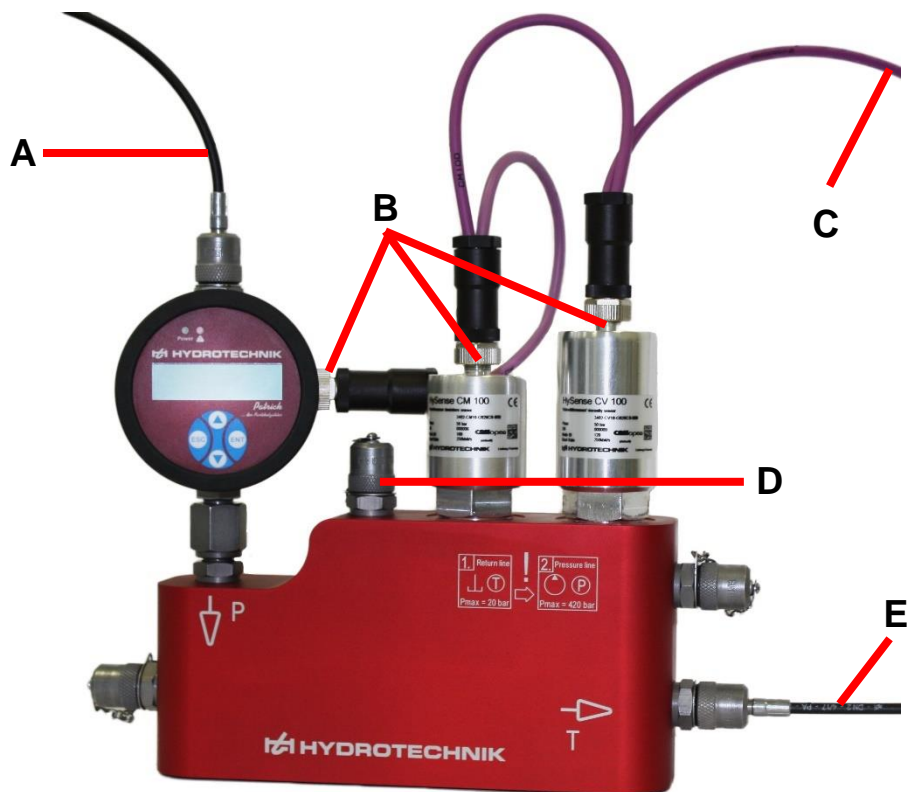
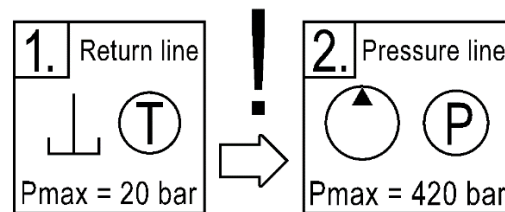

Figure 3: Connections to the CX 197
Figure 4: Printing on the CX197 (pictograms)
Figure 3 depicts the connected CX 197. The next section describes the start-up in more detail.
- First connect the tank line to the CX 197 with a simple hose line (point **E**, Figure 3)
- For the pressure connection, use the hose line with the check valve on one side. First connect the simple side (without check valve) to the CX 197 on the input side (point **A**, Figure 3)
The CX 197 does not have its own pump, which is why it is installed in the pressure line. The symbols P and T with an arrow are engraved on the front side of the CX 197. The arrows on the CX 197 indicate the flow direction of the medium. The P symbol stands for pressure and the T for the tank side (Figure 3 or Figure 4). The warning on the front of the CX 197 (Figure 4) symbolizes the correct connection sequence with the maximum pressures that may not be exceeded.